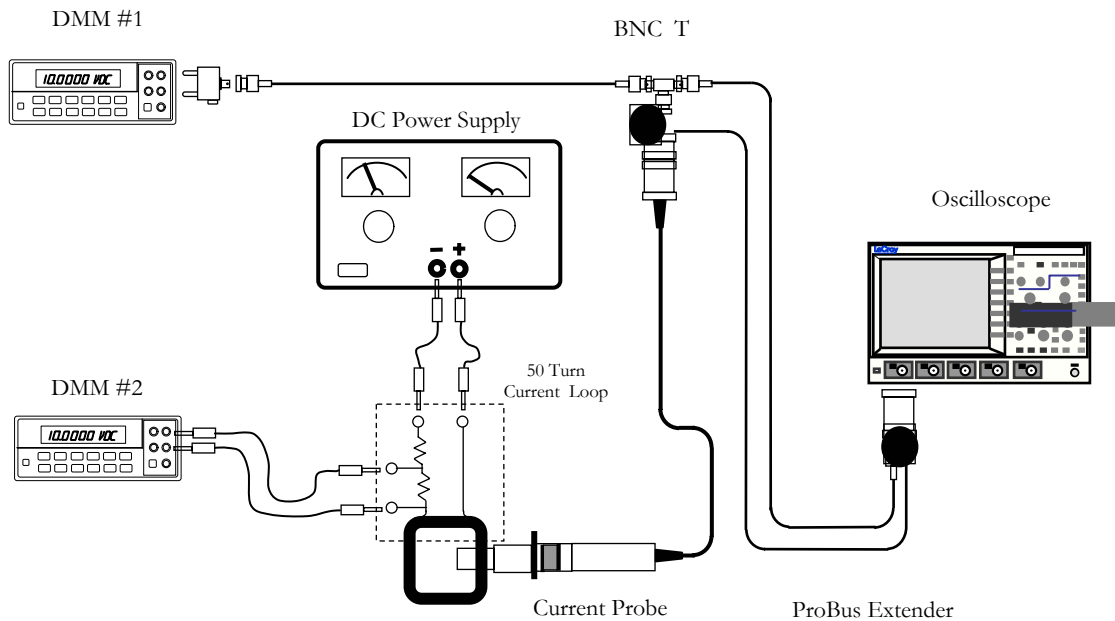

Figure 1. DC Accuracy Test Set Up
3. Using banana patch cords, connect the 'V Source' terminal of the 50 Turn Calibration Loop, AP015-CF01, to the positive output of the power supply. Connect the 'V Return' terminal to the power supply negative terminal. (Refer to Figure 1 on the following page.)
2. Connect the AP015 (without the compensation box cover ) to the oscilloscope using the setup for the DC Accuracy check in the Performance Verification Procedure. (Refer to Figure 1 in the Performance Verification section).